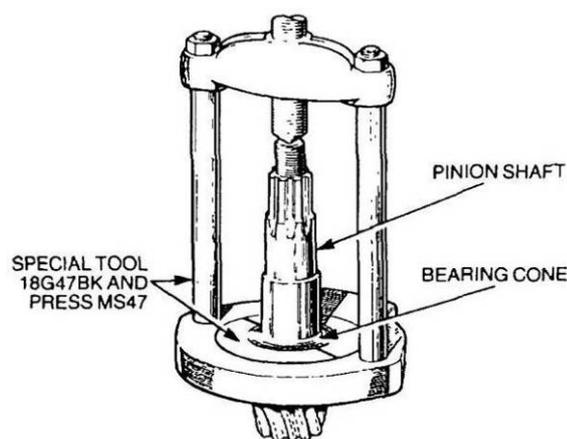

Figure 230 Removal of the Pinion Bearing Cone
- m. Using special tool 18G47BK and press MS47, remove the inner bearing cone from the pinion (Figure 230).